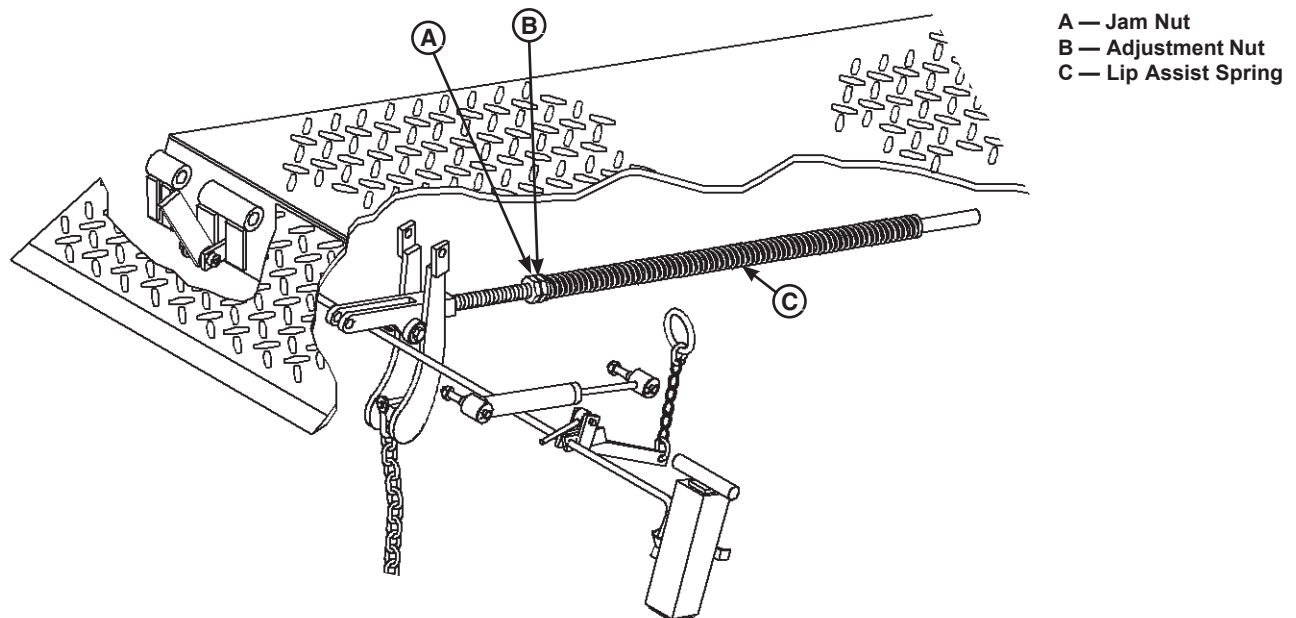

Figure 22
5. Adjust tension on the lip assist spring (C) as follows (Figure 22):
- a. Loosen jam nut (A).
- b. To increase spring tension, turn adjustment nut (B) clockwise.
- c. To decrease spring tension, turn adjustment nut (B) counterclockwise.
**NOTE:** Use 1/2 turn increments when turning adjustment nut (B). Check lip operation after each adjustment. Repeat until proper operation is obtained.
- If the lip folds before the platform can be walked down, adjust tension of lip assist spring (C) (Figure 22).